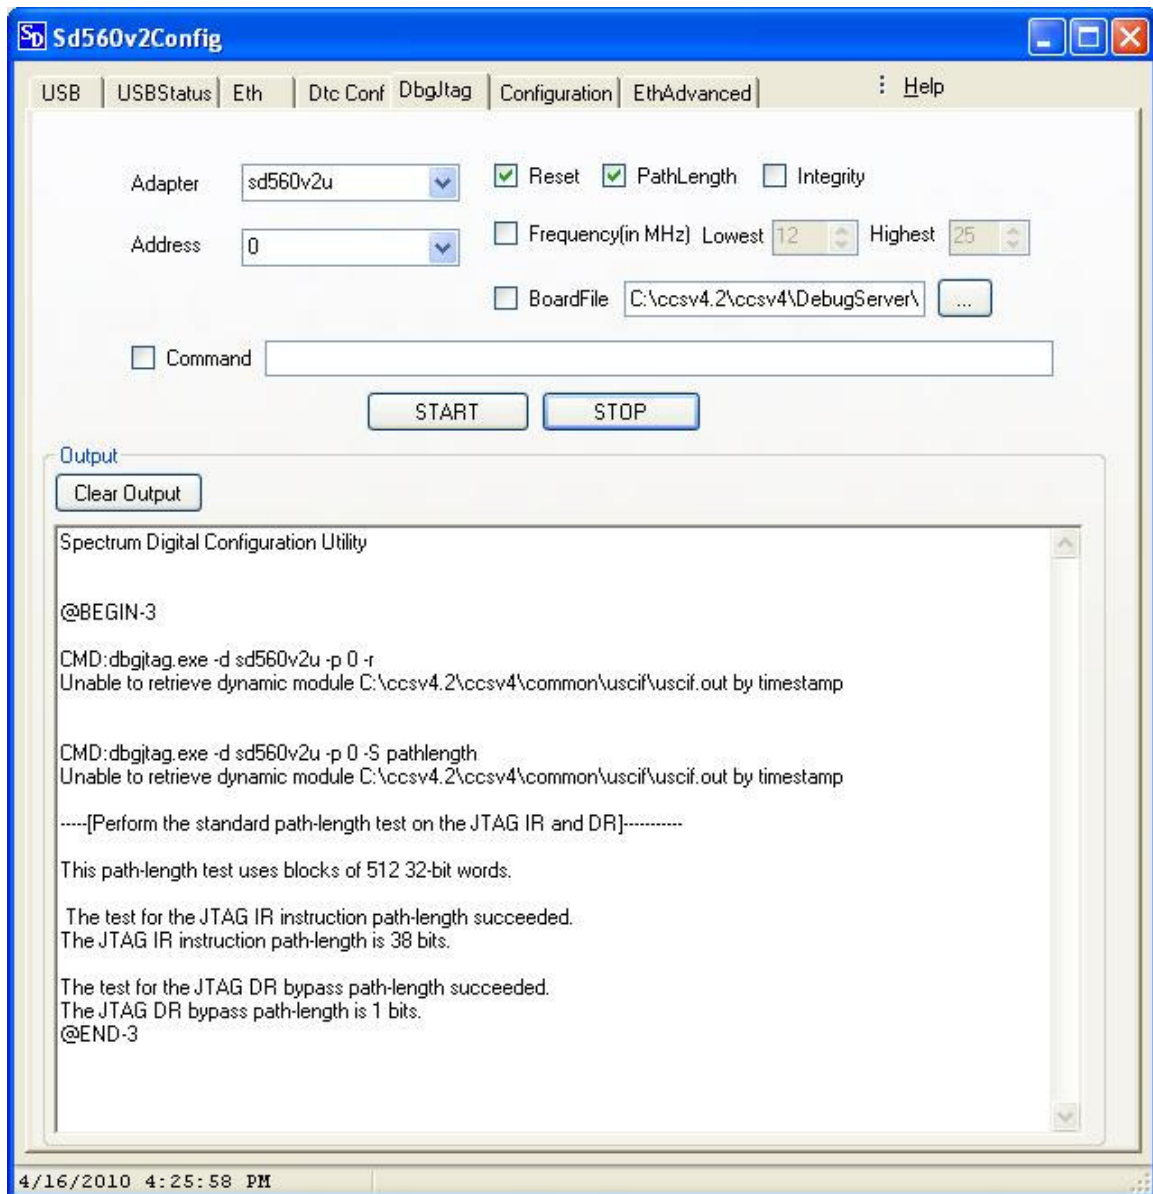

FIGURE 21: Sd560v2Config – DbgJtag Tab Reset and pathlength command.
5. Click on the START button. The output for reset and pathlength is as shown in figure 21 below.